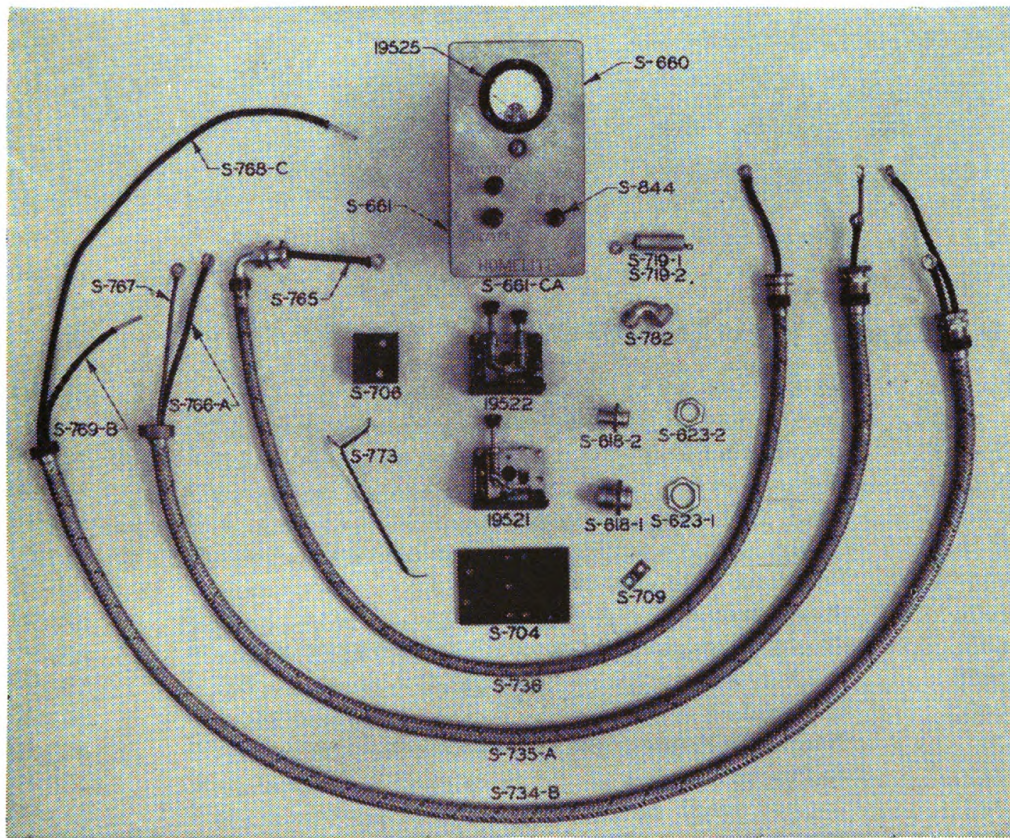

FIGURE 26.—Control box parts and connections.
19. Control box parts and connections (fig. 26).